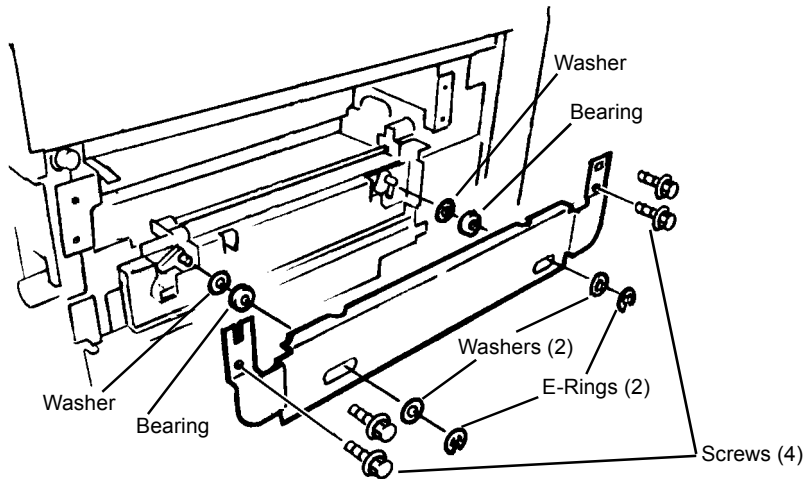

Figure 1 Removing Lift Bracket
11. Remove Lift Bracket (Figure 1).
- a. Remove E-Rings (2) and Washers (2).
- b. Remove Screws (4) and remove Lift Bracket.
- c. Remove Bearings (2) and Washers (2).